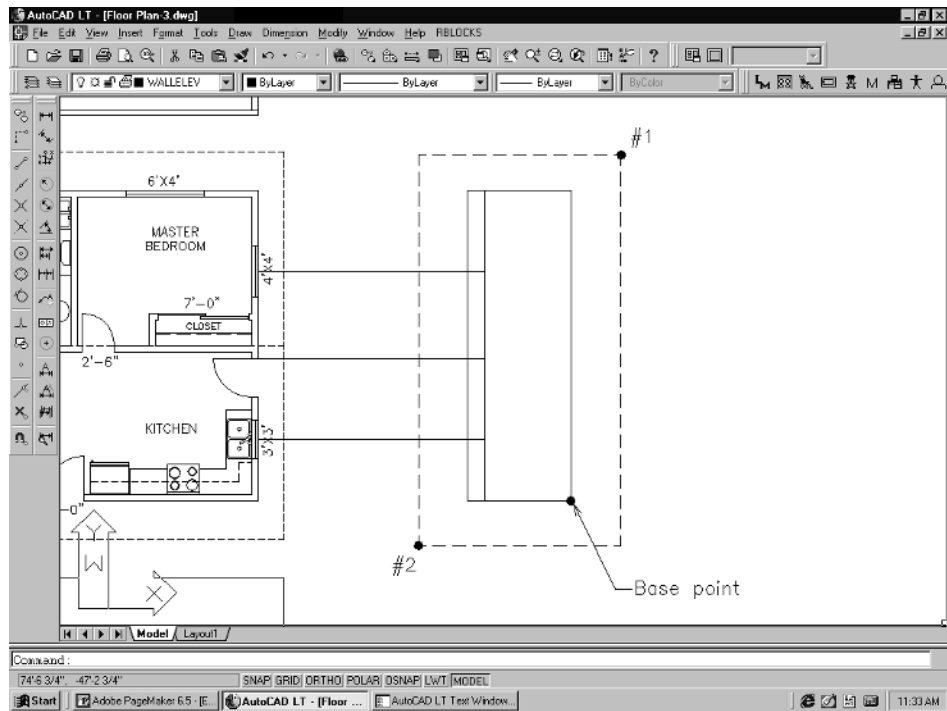

Figure 4-22
2. When prompted to *Select objects*, use a “crossing window” to select the elevation walls, floor, ceiling, header line, and construction lines by picking point #1 first as shown in Figure 4-22. At the *Specify opposite corner* prompt, pick point #2, then hit **Enter**. Then at the *Specify base point* prompt, pick a base point for the rotation.